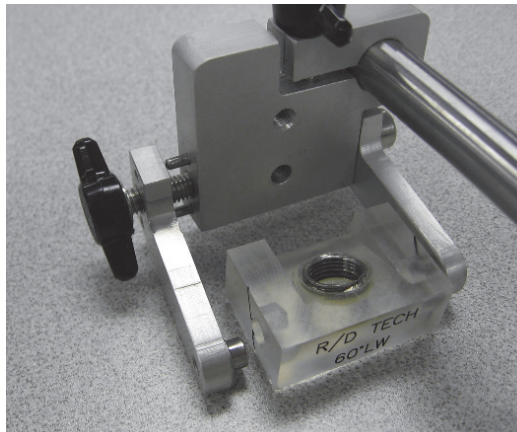

Figure 1-2 Pulling the fork arm away from the probe holder
1. On the side of the fork, unscrew the wing screw enough so that you can pull the fork arm away from the probe holder (see Figure 1-2 on page 20).